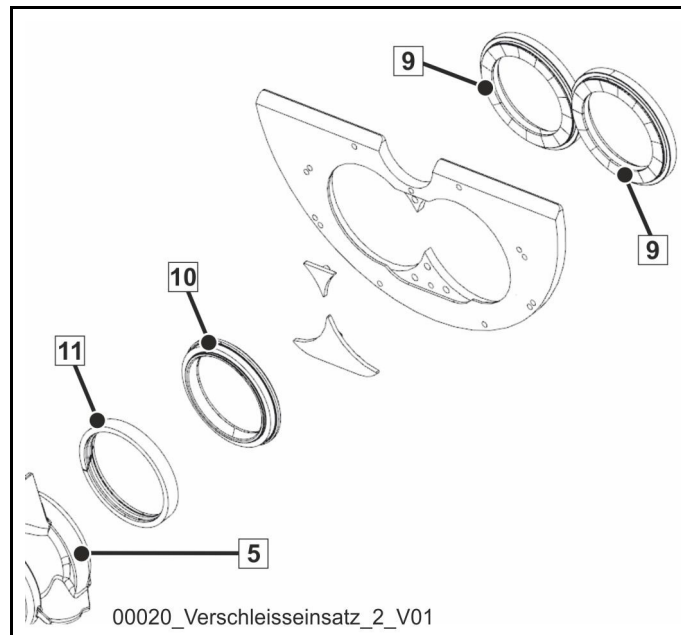

Fig. 334
A two-piece wearing insert (9) (Fig. 334) made of white cast iron with an appropriate support plate is available as special equipment.